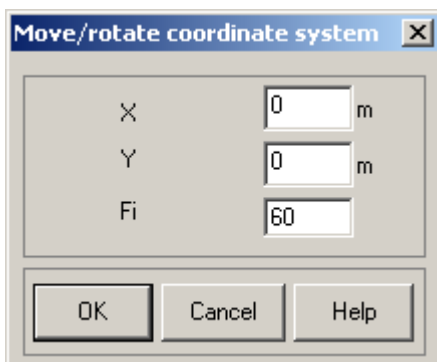

Figure 1.7.8 **Move/rotate coordinate system** dialog box
- ⇒ In the **Move/rotate coordinate system** dialog box (see Fig.1.7.8), define the following parameters: